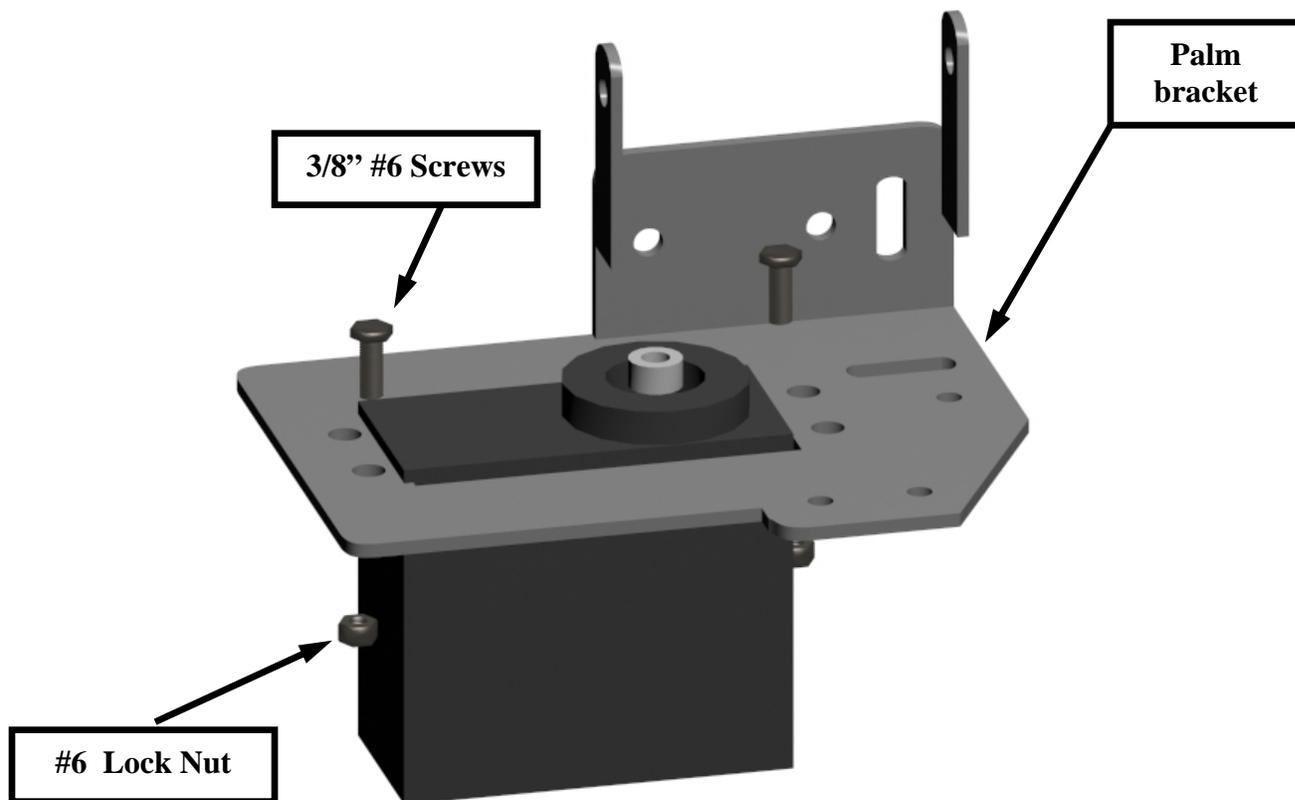

Figure 3
- Using (2) 3/8" #6 screws and lock nuts, install the HiTec HS475HB servo to the palm as shown in figure 3. Do not tighten the #6 screws completely as this will be completed later in the construction process.